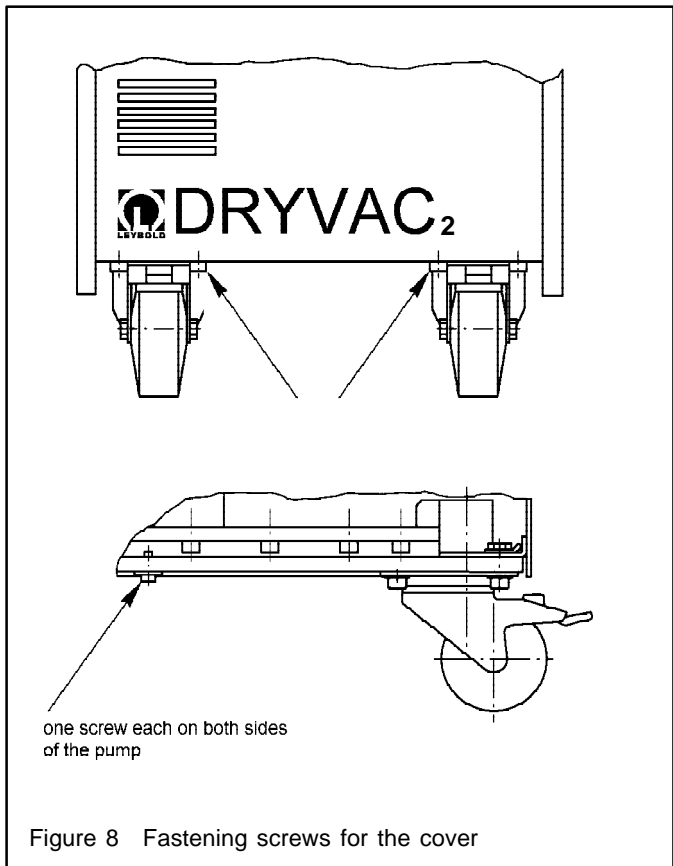

Figure 8 Fastening screws for the cover
1. Access the motor junction box by removing the four bolts (Figure 8) on the base of the pump, and remove the front panel.